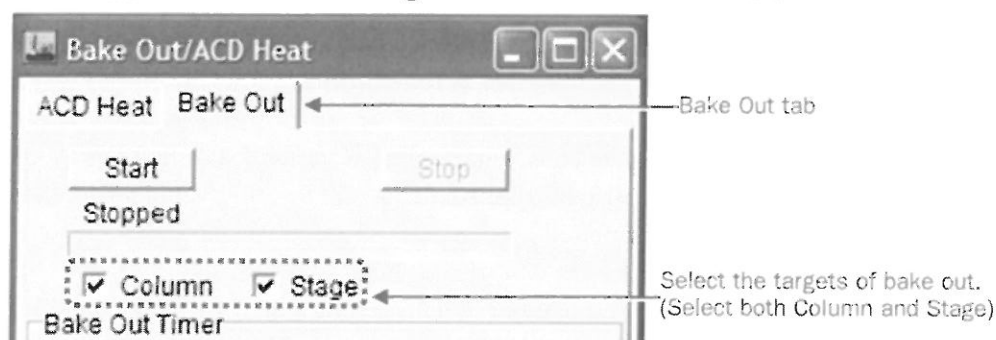

Fig. 6.12 Selecting the targets of bake out (Bake Out/ACD window)
2. Select the check box for **Column** and **Stage** in the Bake Out/ACD Heat window if they are not selected (Fig. 6.12).